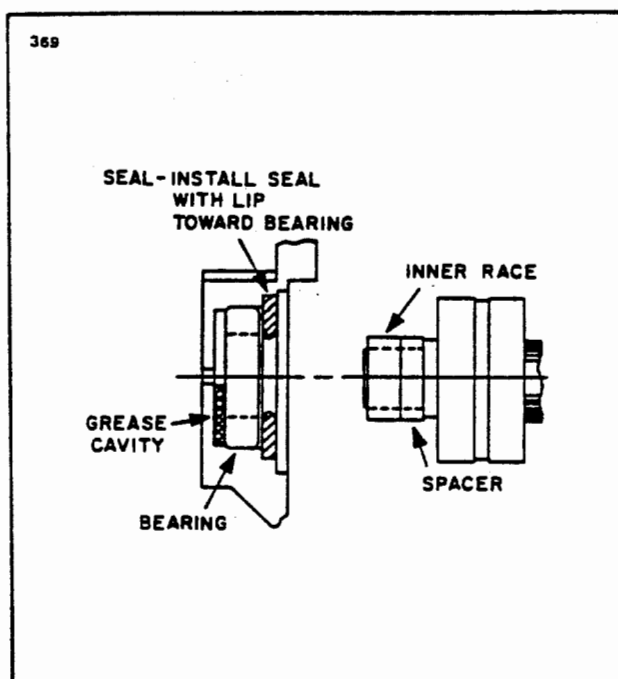

Figure 11-14. Slip Ring End Bearing Assembly
e. Install the slip ring end bearing and oil seal. Make sure the lip of the oil seal is toward the bearing. Stake the seal in place. Correct assembly of bearing, seal, inner race and spacer is as shown in Figure 11-14.